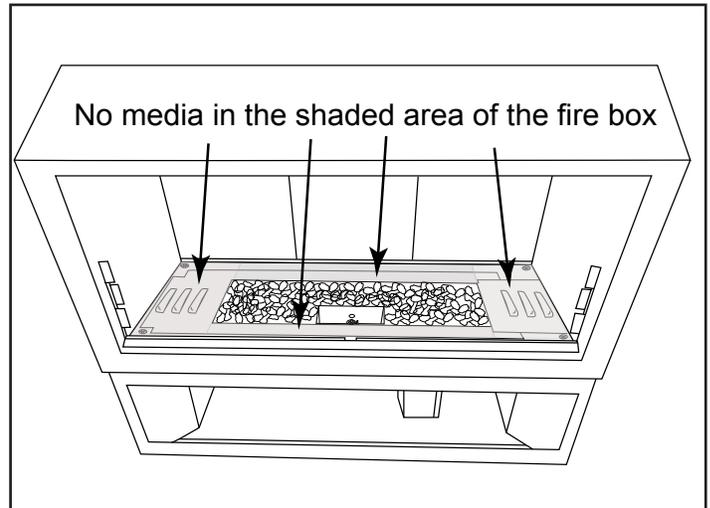

Figure 37 Covering the entire fireplace floor is NOT permitted in the shaded area.
**IMPORTANT:** Media can only be placed in the trough and burner pan area. No media is to be place into the shaded area shown in Figure 37, page 25.
**Note:** Media amounts listed in Table 7 are guides and can vary depending on media used. Ensure not to cover more than ½ -inch above the actual burner tube and keep all media within the burner pan area (See Figure 37).